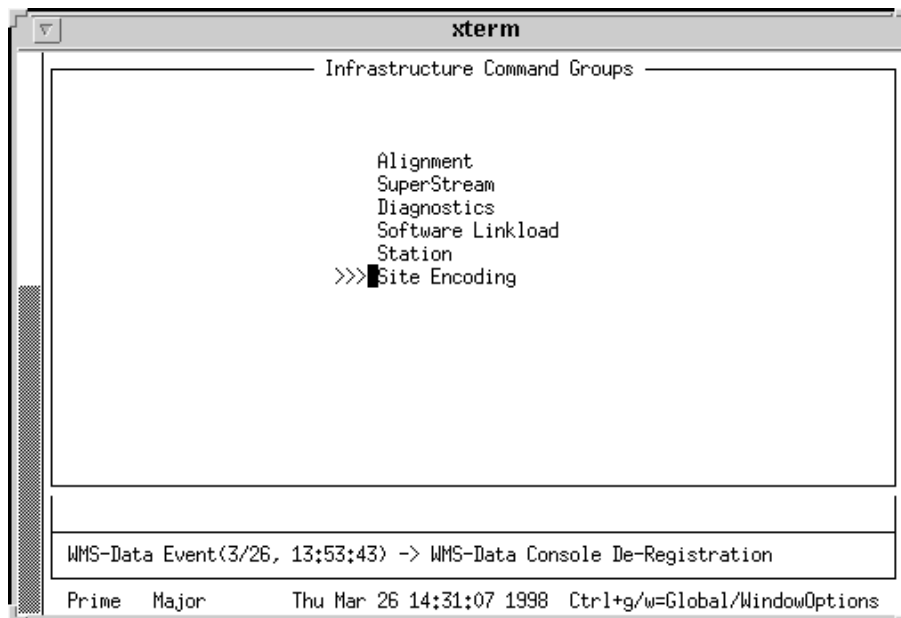

Figure 7-1: Infrastructure Command Groups—Site Encoding
1. From the Infrastructure Command Groups menu, use the <tab> to position the cursor to the left of the listing Site Encoding and press: <Return> (see Figure 7-1).